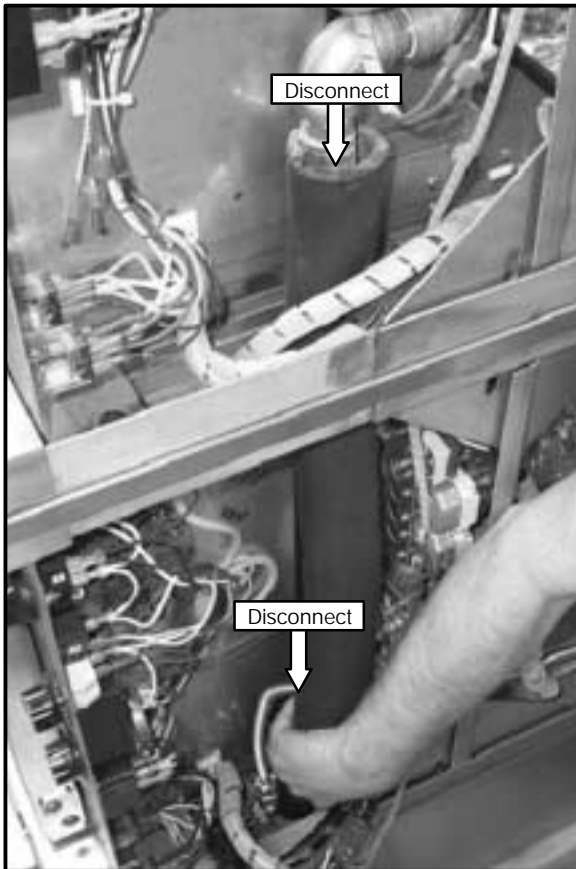

Figure 19
11. Disconnect and remove the steam line to the upper oven section at locations shown in Figure 19. The top of the hose is secured with a band clamp. The bottom of the hose pulls out of the boiler in the oven base section. This orange hose has a black foam insulated cover around it. Remove hose with insulation from oven assembly.